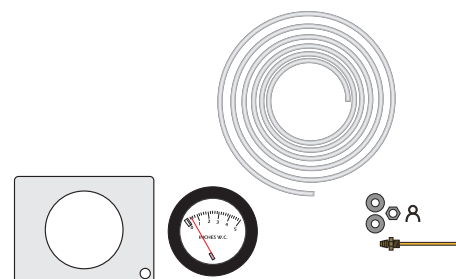

FIG. 21
Assemble the Filter Efficiency Gauge (T) [FIG. 21] by referring to the included instruction sheet: